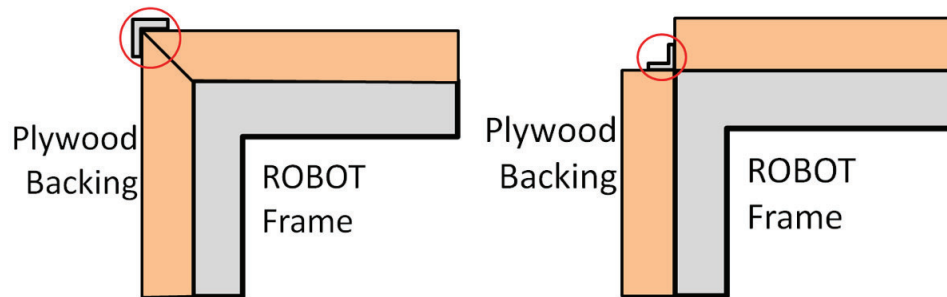

Figure 10-5 Hard Parts of BUMPER Corners
- F. optionally use metal brackets (i.e. angle or sheet metal) to attach BUMPER segments to each other (see Figure 10-5).